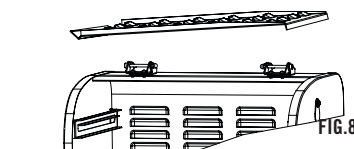
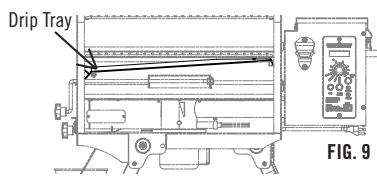

FIG. 8
FIG. 9
1. Install the Drip Tray as shown in Fig 8 and Fig 9.